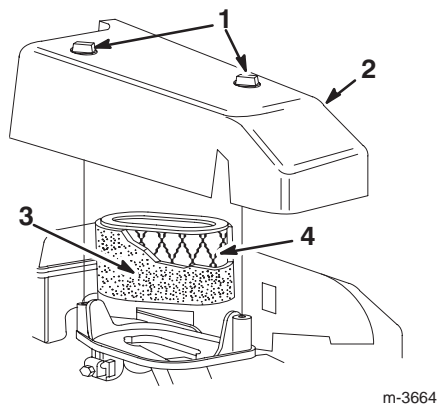

Figure 20
3. Remove the two knobs that secure the air filter cover to the engine (Fig. 20).